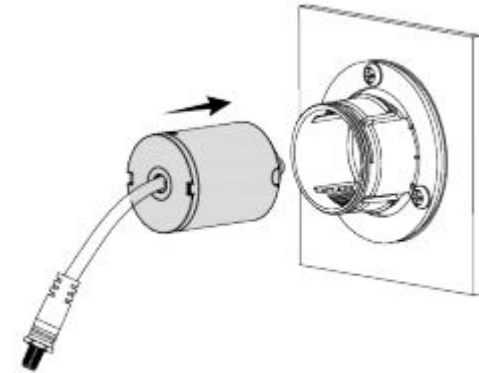

Figure 2-6
Step 3 Install the lens assembly into the mount as shown in Figure 2-6